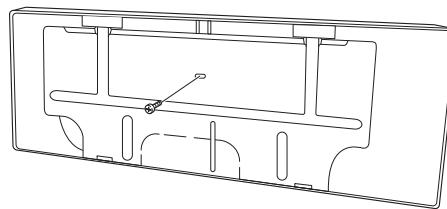

Fig. 6
- (1) Remove and discard the set screw on the rear panel. (Fig. 6)